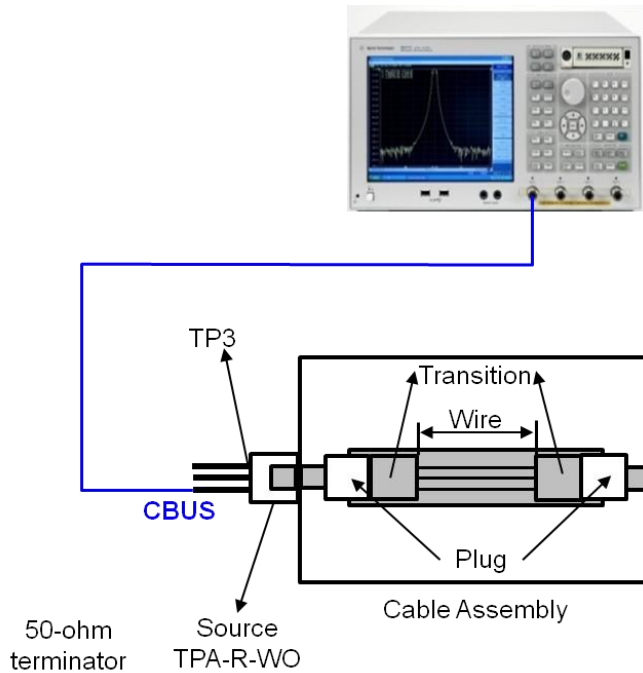

Figure 5-3 CBUS Line Capacitance Test Setup
7. Connect the DUT to the test fixture. (Figure 5-3).